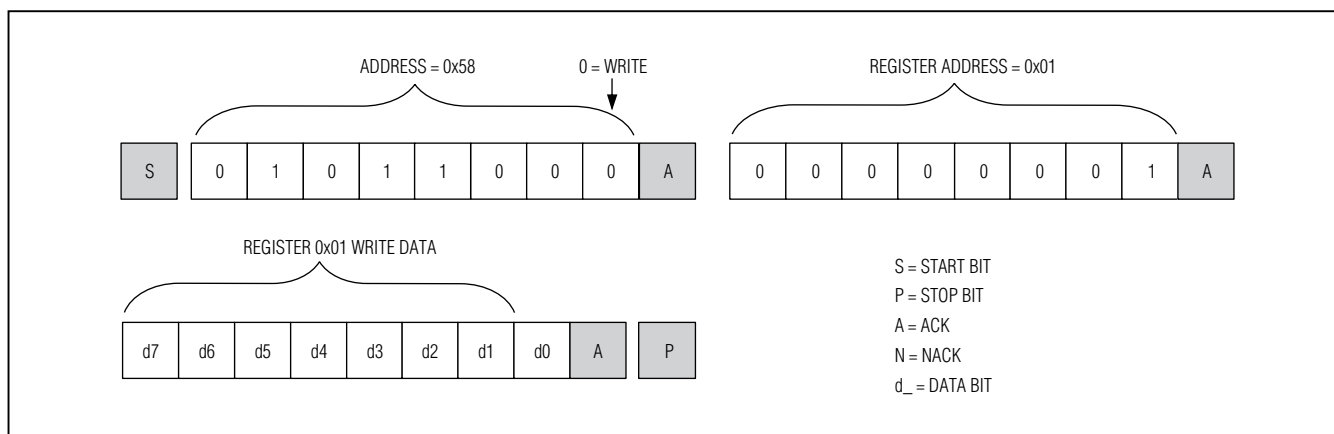
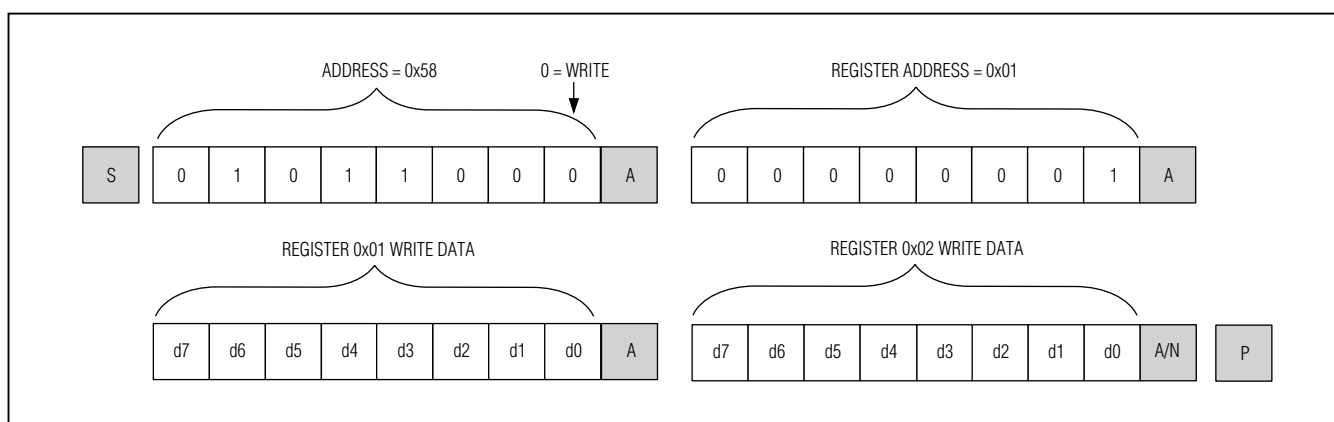

Figure 9. Format for I²C Write
Figure 10. Format for Writing to Multiple Registers
A write to the MAX14578E comprises the transmission of the slave address with the $\overline{R/\overline{W}}$ bit set to zero, followed by at least one byte of information. The first byte of information is the register address or command byte. The register address determines which register of the MAX14578E is to be written by the next byte, if received. If a STOP (P) condition is detected after the register address is received, the MAX14578E takes no further action beyond storing the register address (Figure 9). Any bytes received after the register address are data bytes. The first data byte goes into the register selected by the register address, and subsequent data bytes go into subsequent registers (Figure 10). If multiple data bytes are transmitted before a STOP condition, these